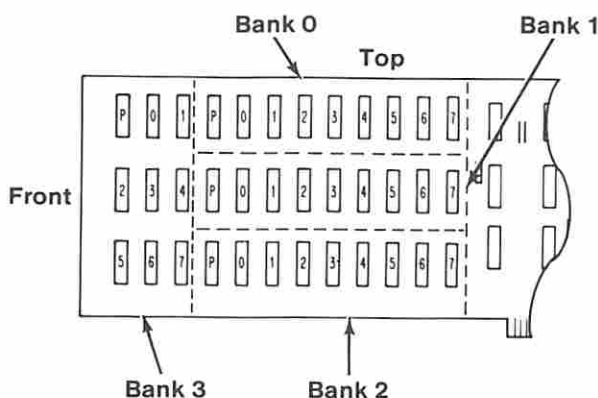

Figure 4. 64/256KB Memory Expansion Option
- Find the failing bank and module in Figure 4.